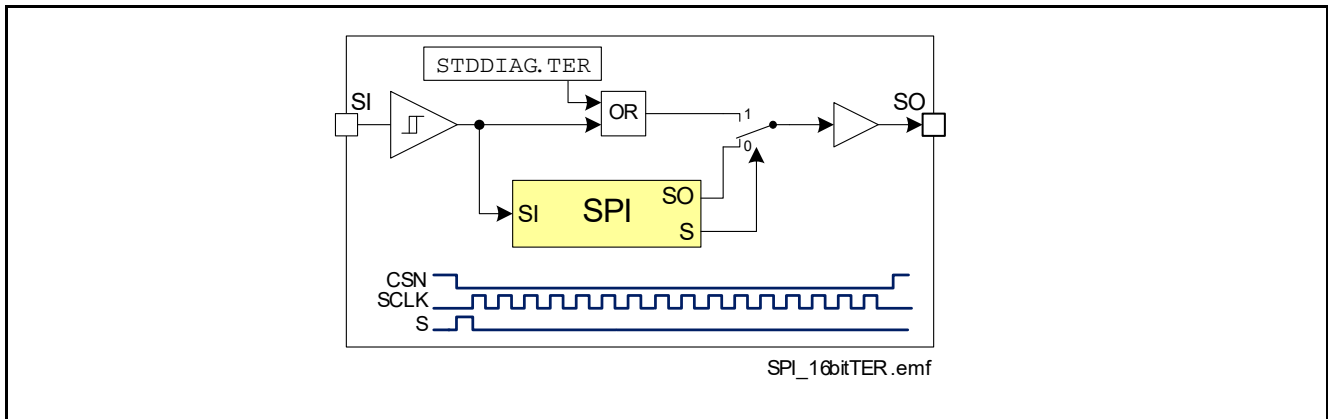

Figure 29 Combinatorial Logic for TER bit
- TER Flag will set the Bit number 10 in the STD diagnosis Frame. This Bit is set to HIGH after an undervoltage condition, reset via SPI command, on Limp Home state entering or after an incorrect SPI transmission. TER Flag can be read also directly on the SO line between the falling edge of the CSN and the first rising edge of the SCLK according to the Figure 29.